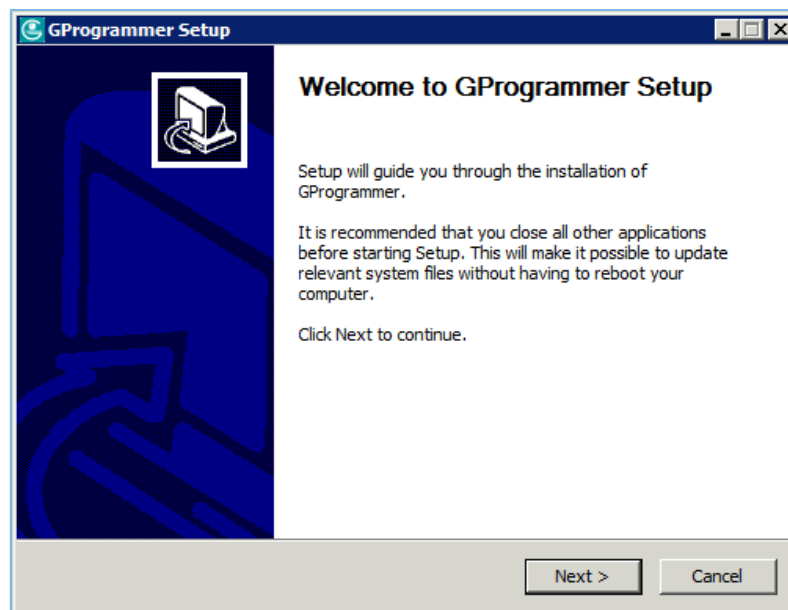

Figure 2-1 GProgrammer Setup installation wizard
1. Double-click *GProgrammer Setup 1.2.14.exe*, and follow the steps in the **GProgrammer Setup** wizard (see Figure 2-1).